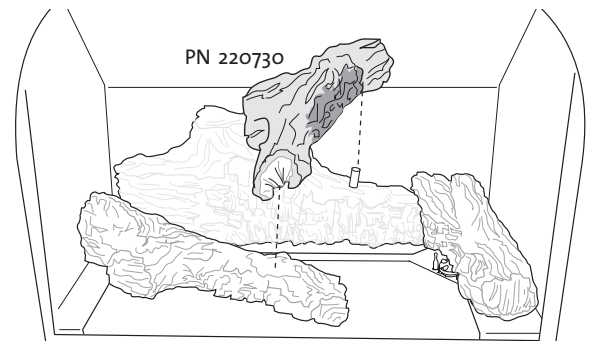

Figure 13. Install middle log
4. Install middle log on the appropriate pegs shown in fig. 13.